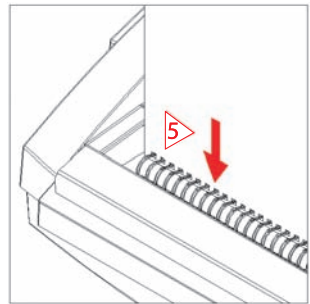

Figure-7
- ▶ Take out the wire comb with the document, put it into the slot for closing wire comb as shown figure-7.